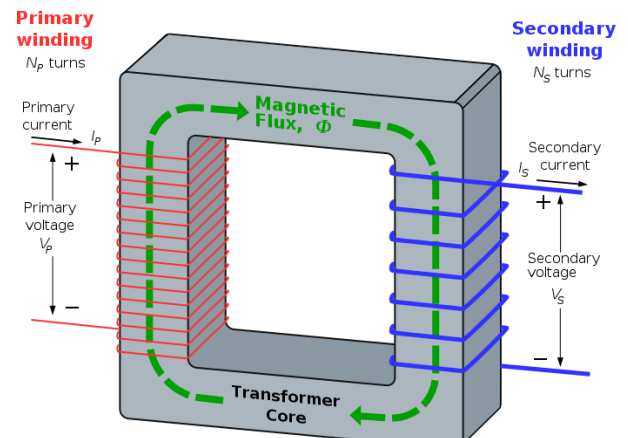
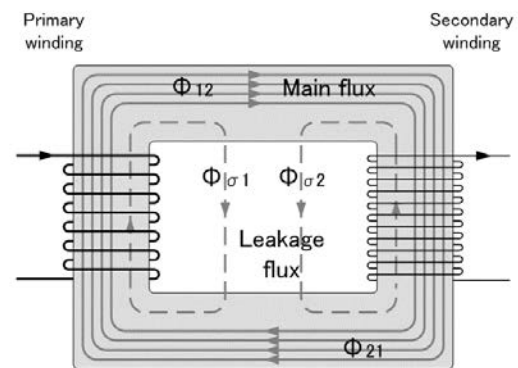

Fig. 4
Fig. 5
The operation of a transformer is really quite simple, and is the reason why transformers are cheap, robust and efficient. Refer to Fig 5 below.
Fig 4 illustrates how a simple transformer works.
In actual fact not all the flux produced by the primary winding will link with the turns in the secondary coil. Some of it leaks away, as shown in Fig 5. This is known as flux leakage and is largely dependent on how closely the two coils can be situated together. Leakage flux results in a slight (maybe 3% - 5%) reduction in
12. You should get a reading of approximately 13.5 or 14 volts or a little less. Why is this? It is because in the smaller coil, there will be  $(8 \text{ volts}/150 \text{ turns}) = (0.053 \text{ volts per turn})$ . On the basis of what we have seen above, and assuming that all lines of magnetic flux link equally with the all the turns in both coils, (See Fig 4) then the voltage induced in the larger coil would be  $(300 \text{ turns} \times 0.053 \text{ volts per turn}) = 16 \text{ volts}$ . In actual fact you will probably only get about 13.5 or 14 volts. The first problem here is that not all the flux produced by the primary coil links with the turns of the secondary coil. See Fig. 5 and "leakage flux". Another problem is that our transformer has numerous air gaps and holes in it. As we have seen, it takes roughly 15,000 times as much "electromotive force" to produce a given flux in air as it does in good quality steel. A second and equally significant limitation is that we have absolutely no way of knowing the quality of the steel we have used in our core and how close it may be to its'